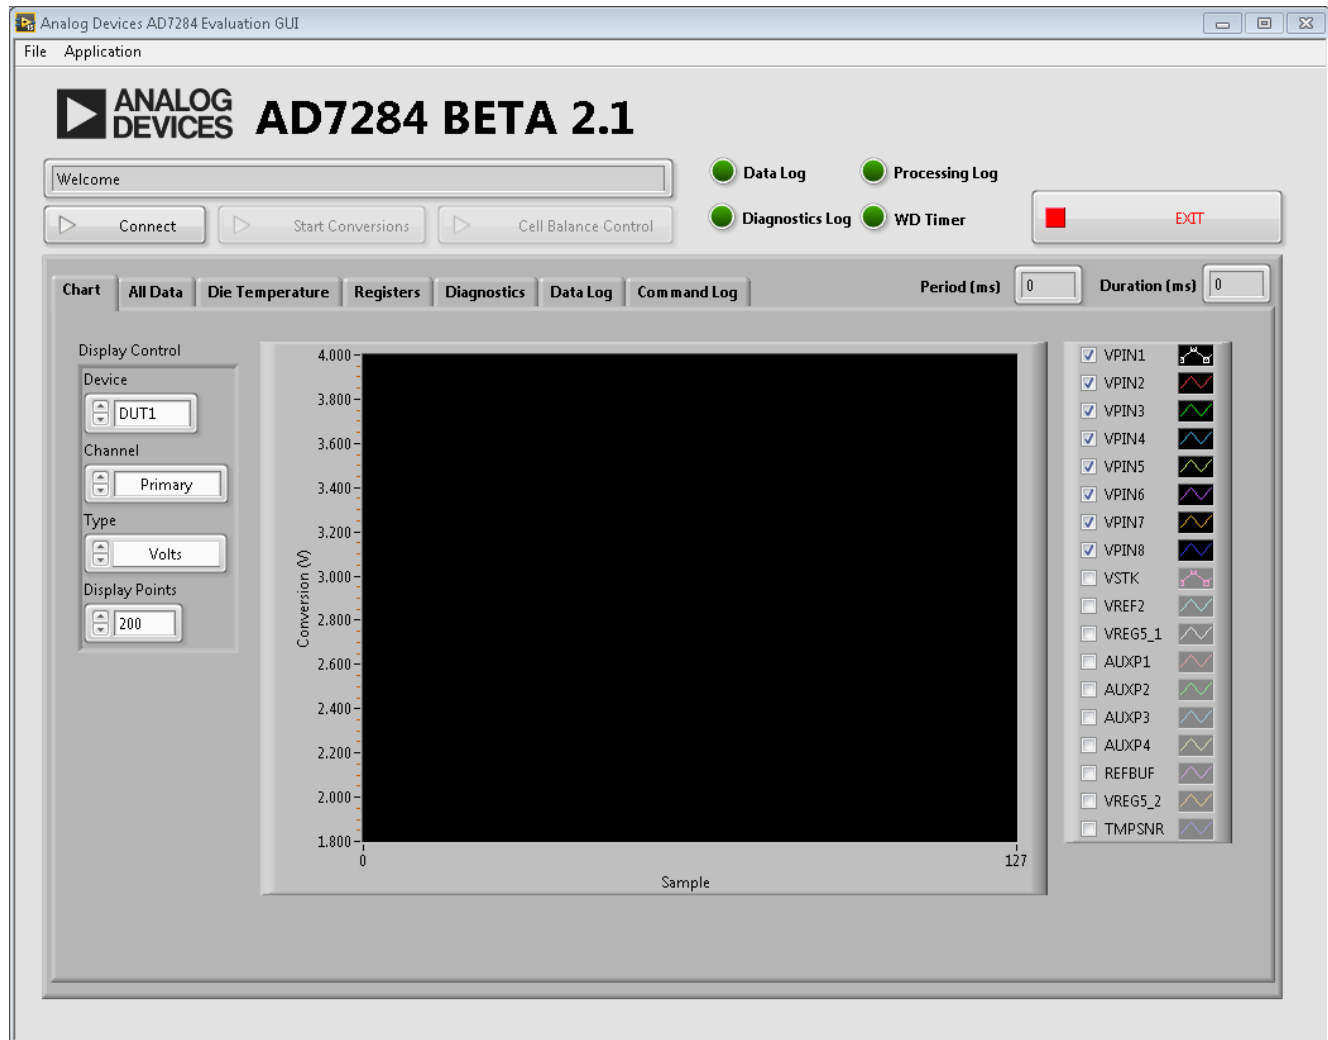
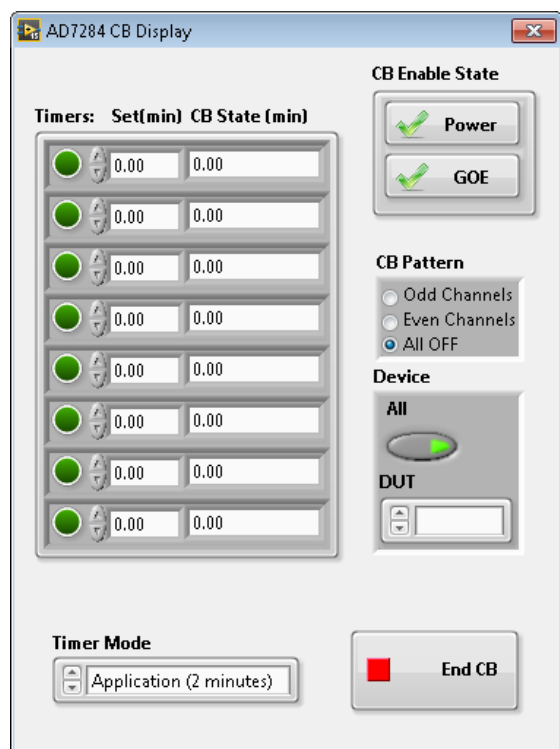

Figure 24. Evaluation Software Main Window
Figure 26. Cell Balance Control Pop-Up Window
1. From the **Start** menu, Select **All Programs > Analog Devices > Analog Devices – AD7284 > AD7284 GUI**. The main window of the software graphical user interface (GUI) displays, shown in Figure 24.
With the hardware set up, the software can control the EVAL-SDP-CB1Z and the AD7284 evaluation board. From the **Start** menu, select **All Programs > Analog Devices > Analog Devices – AD7284 > AD7284 GUI**. The main window of the software GUI displays, shown in Figure 24. The main function of this window is to allow the user to read samples from the evaluation board and display them.
Click **Cell Balance Control** (see Figure 24) to display the Cell Balance Control window, shown in Figure 26.